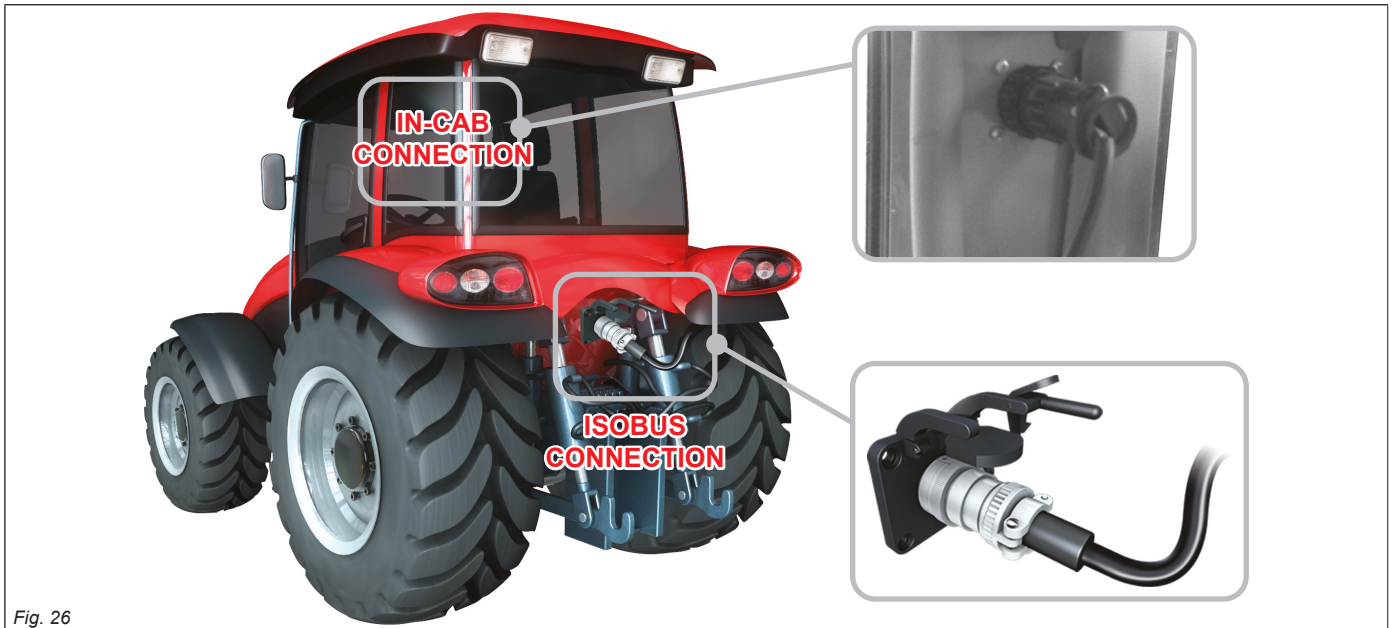

Fig. 26
**Connection:** Fit the connectors (**in-cab connection** in Fig. 26), ensure they are correctly in place and turn the ring nut clockwise until blocking them.
**Connection:** fix the connectors (**ISOBUS connection** in Fig. 26); make sure they are correctly fitted and push until locking them.